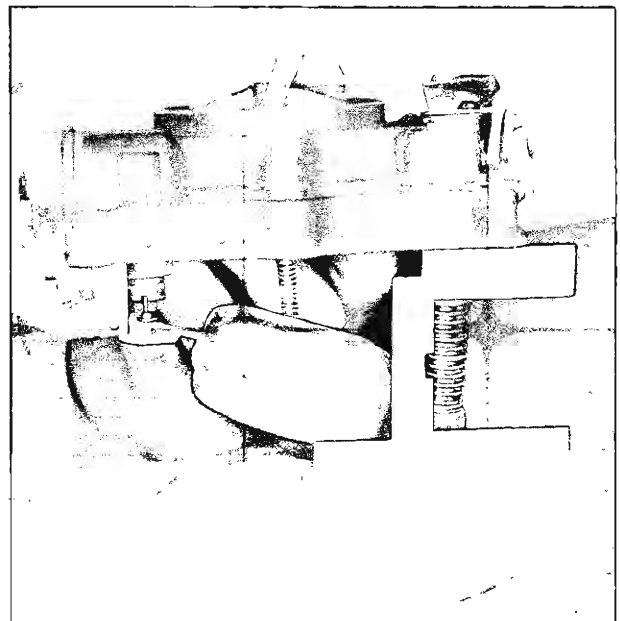

Fig. 29—Float Drop Adjustment
8. Hold bowl in an upright position and measure the distance from the gasket to the bottom of the float, as shown in Figure 29. This dimension should be